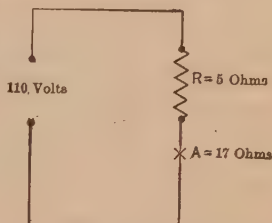

FIG. 29. A coil and arc lamp in series across a 110 volt line.
**16. Series Circuit. Voltage.** Suppose a coil ( $R$ ) of 5 ohms resistance, and an arc lamp ( $A$ ) of 17 ohms resistance are joined in series, as in Fig. 29, across a 110-volt line.